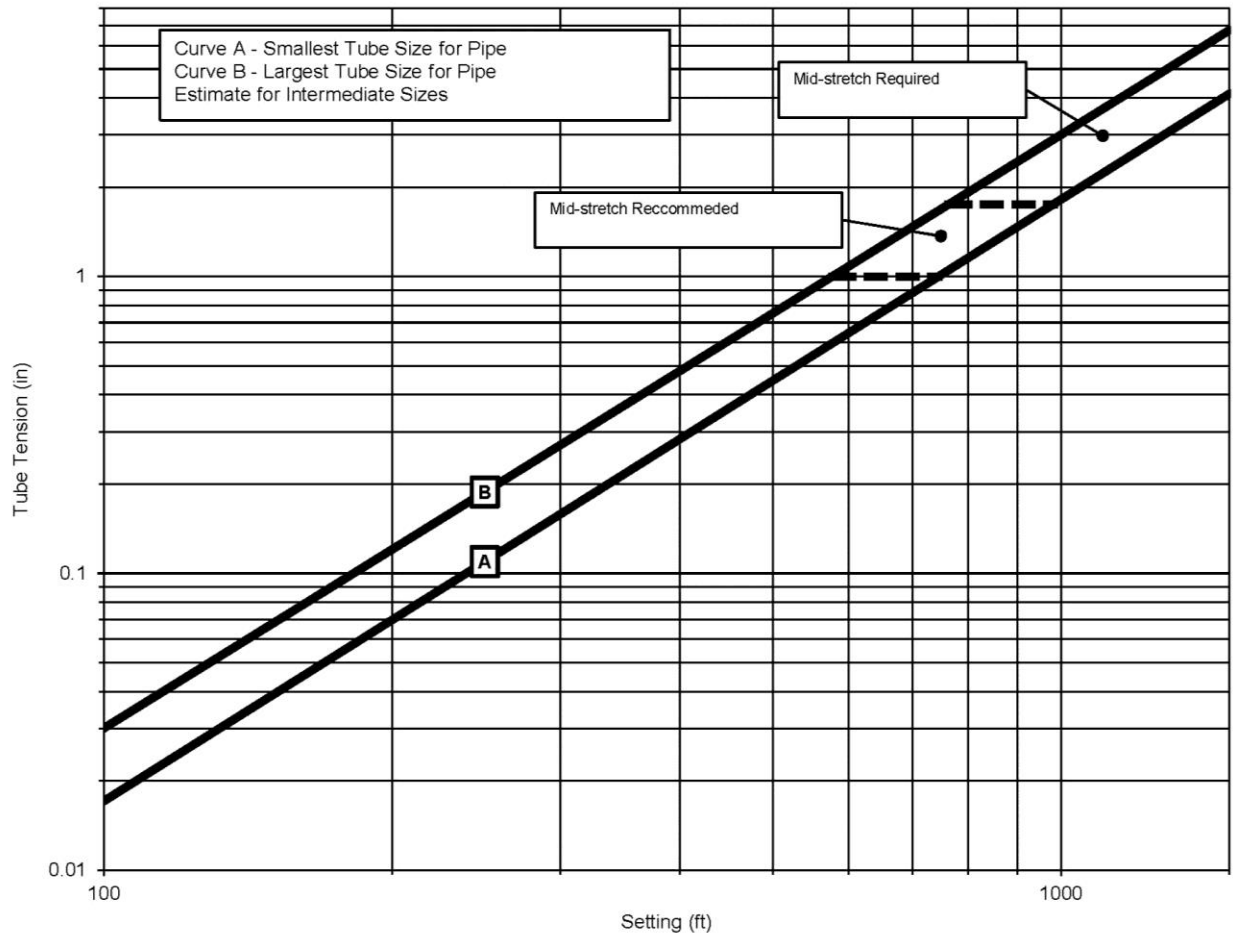

Figure 6-2 – Tube Size & Setting Depth Verse Required Tube Tension
4. Place o-ring on tension nut and thread tension nut on to tube tension bearing until nut is snug against discharge head. Continue to tighten tension nut until the minimum amount of tension is achieved for the pumps setting length per figure 6-2 below. Install four (4) tension nut cap screws.
For oil lubricated, deep set pumps a mid-stretch assembly may be required. Figure 6-2 shows the ranges of pump setting where mid-stretch assemblies are recommended and required. A mid-stretch assembly is used to pull some tube tension in an application where the tube tension required for the total setting depth would be difficult or impossible to achieve at the tension assembly seal in the discharge head.
For example, a pump set at 1000 feet would require between 1.1"-1.2" of tension (per Figure 6-2), which could be difficult to achieve at the tension assembly alone so a mid-stretch assembly is used. The pump is built up as normal for the first 500' of column and at 500' a mid-stretch assembly is installed in the column. Since there are 500' of enclosing tube with no tension, figure 6-3 is used to determine that .35"-.75" of tension is needed (depending on the tube size) for the 500' of setting so far. The .35"-.75" of tension for the first 500' is pulled at the mid-stretch assembly and then the remaining 500' of column is built up as normal. Figure 6-2 is used to determine that .35"-.75" of tension is needed (depending on the tube size) for the 500' of setting since the last mid-stretch assembly. The .35"-.75" of tension needed for the column since the last mid-stretch assembly is pulled at the tension assembly seal in the discharge head.